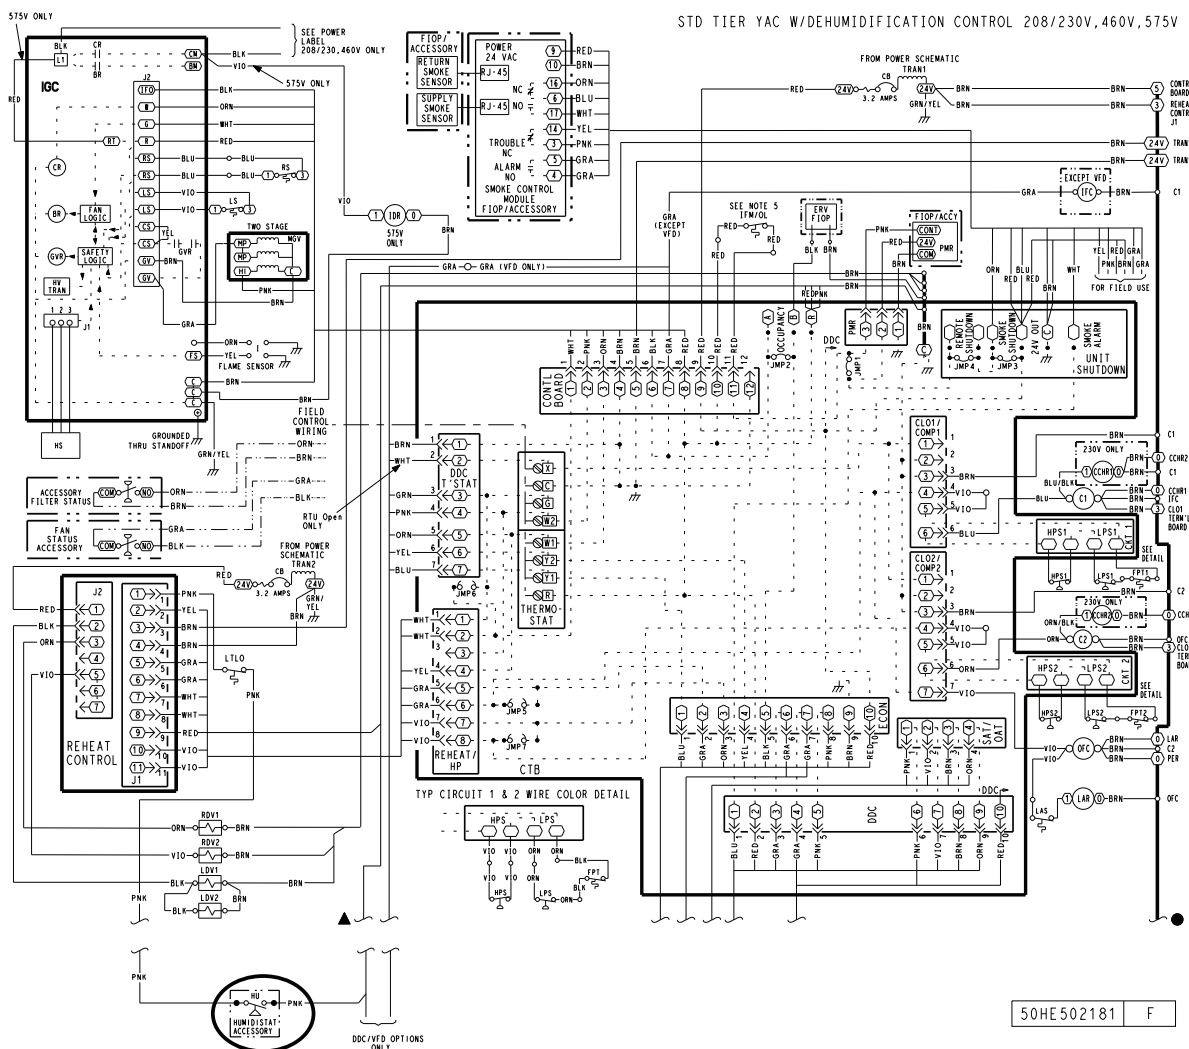

Fig. 32 — Typical Hot Gas Re-Heat Dehumidification System Humidistat Wiring
The Hot Gas Re-Heat dehumidification system requires a field-supplied and installed space relative humidity control device. This device may be a separate humidistat control (contact closes on rise in space RH above control setpoint) (see Fig. 32) or a combination thermostat-humidistat control device with isolated contact set for dehumidification control. The humidistat is normally used in applications where a temperature control is already provided (such as a third-party Building Management System).
3. Use wire nuts to connect humidistat cable to two PINK leads in the low-voltage wiring as shown in Fig. 32. Refer to the instructions for the field-supplied humidistat for more information.